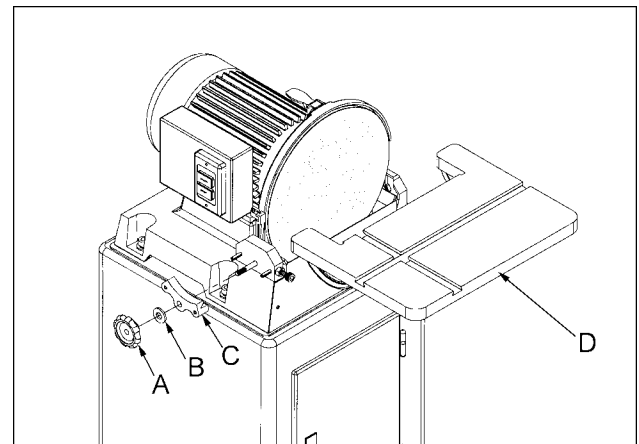

Fig. 7
2. Remove the knobs (A, Fig. 7), washers (B, Fig. 7), and trunnion holders (C, Fig. 7) followed by the table assembly (D, Fig. 7).